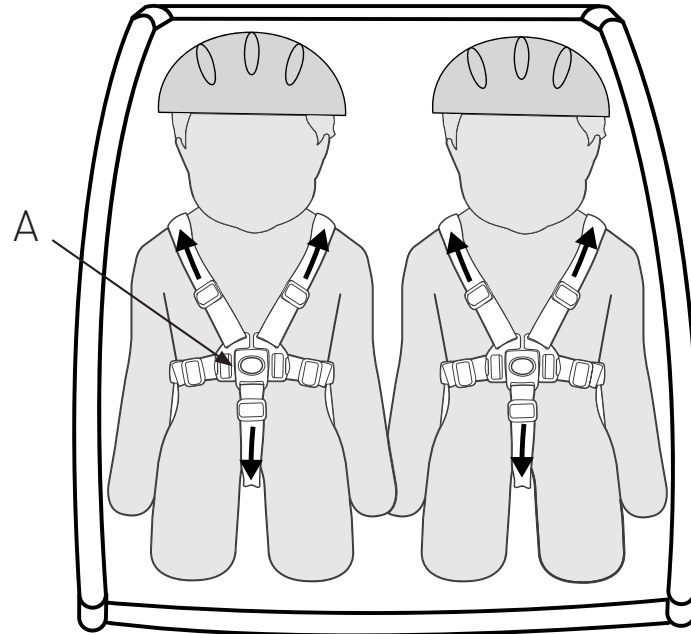

Figure 22
1. Before loading or unloading your children, set the parking brake. After loading, secure and adjust the harnesses. Snap shoulder straps & waist straps into 5-point harness buckle and adjust straps so they are secure (Figure 22). Fasten and adjust lap belt(s) to fit securely.